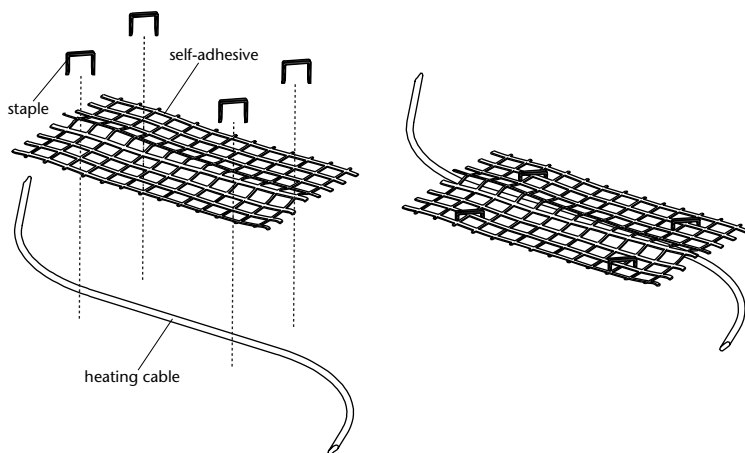

Fig. 7.1
- Keep the strips of fiberglass mesh cut during installation and, as necessary, place them over the heating cable if you have detached it from the mat and laid it out by hand (fig. 7.1);